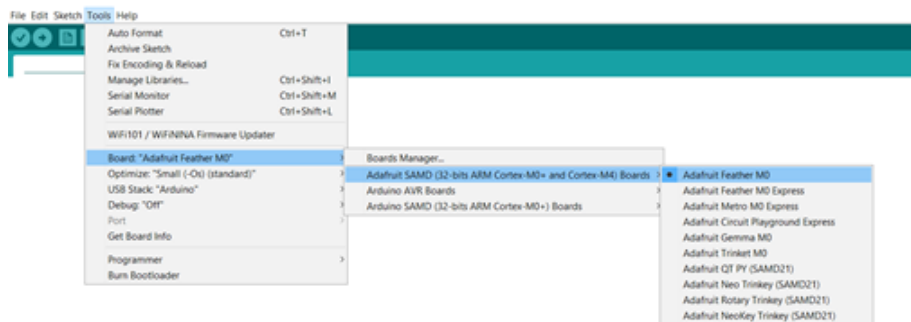

Figure 12: “Adafruit Feather M0” board selected
- Having the required package installed, go to **Menu**, **Tools**, **Board** and select the board “**Adafruit Feather M0**” (Figure 12).
To be able to upload sketches into iStartLab boards, you must select the board “**Adafruit Feather M0**” (Figure 12), which requires the installation of “Adafruit SAMD Board” in Boards Manager. If you haven’t done it yet, follow the steps described in section 4.2.1 of this document.